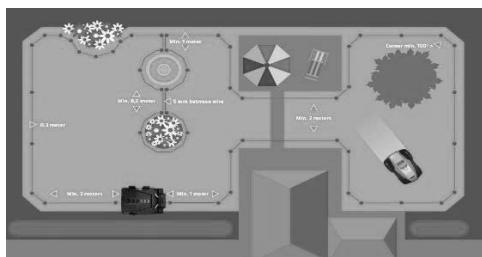

Figura 1
- Don't make perpendicular corners (90°). The corners must be at least 100°. (figura 1 – page 61)